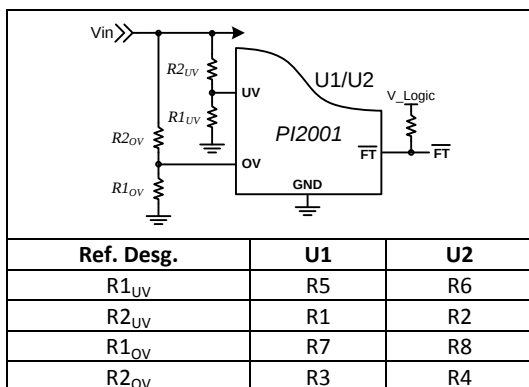

Figure 4: UV & OV two resistor divider configuration
2.1. UV and OV programmable resistors are configured for a 3.3V V_{in} (BUS voltage) application in a two-resistor voltage divider configuration as shown in Figure 4. UV is set to 2.6V and OV is set for 3.8V, $R1_{OV}$ and $R1_{UV}$ are 2.00K Ω 1%. If the PI5101-EVAL1 is required to be used with a different V_{in} voltage application please follow the following steps to change the resistor values.